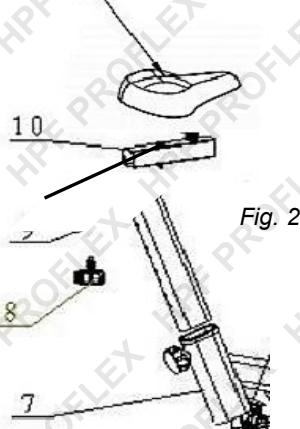
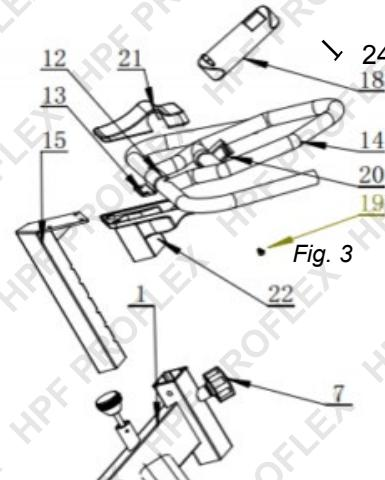

Fig. 2
Fig. 3
3. Attach the left-side pedal (16) and right-side pedal (17) to the respective crank arms. Tighten the pedal bolts using the supplied spanner.
4. See *Fig. 2*. Insert the saddle post (9) into the frame (1), with the height adjustment holes facing rearward. Secure it at the desired height with 1 post locking screw (7) – the pin on the end of the screw must enter a hole in the post to be able to secure properly. Firmly tighten (rotate right) the screw by hand.
5. Place the saddle (11) onto the pin on top of the saddle base (10). Tighten (rotate right) the saddle clamp with the supplied spanner.
6. Place the saddle assembly (10 and 11) onto the rail on the top of the saddle post (9) and secure it at the desired position with the saddle base screw (8). Firmly tighten (rotate right) the screw by hand.
7. Insert the handlebar post (15) into the frame (1), with the height adjustment holes facing forward. Secure it at the desired height with 1 post locking screw (7) – the pin on the end of the screw must enter a hole in the post to be able to secure properly. Firmly tighten (rotate right) the screw by hand.
8. See *Fig. 3*. Place the handlebar (14) onto the plate at the top of the handlebar post (15) and secure it using 4 screws (12) and washers (13). Tighten (rotate right) the screws using the supplied Allen key. When the handlebar is secure, place the top cover (21) and bottom cover (22) in position and secure with 4 screws (19). Tighten (rotate right) the screws using the supplied screwdriver. Be careful not to over-tighten.
9. Place the console mounting clamp (20) over the handlebar and secure with 1 screw (24). Tighten (rotate right) the screw using the supplied screwdriver. Be careful not to over-tighten.
10. Slide the console (18) onto the mounting clamp (20). Install the supplied batteries (2 required for pulse counting) into the console. Plug the bike and pulse electrical connectors into the sockets on the rear of the console.
11. Optionally, install the water bottle clamp (23) to the right front frame leg using the supplied screws.